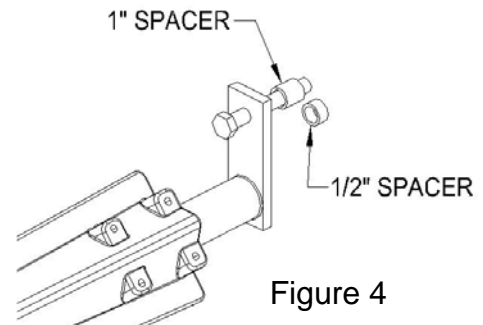

Figure 4
B. Spacers are supplied to bring the steel swivel away from the frame in the event of any obstructions (see Figure 4).